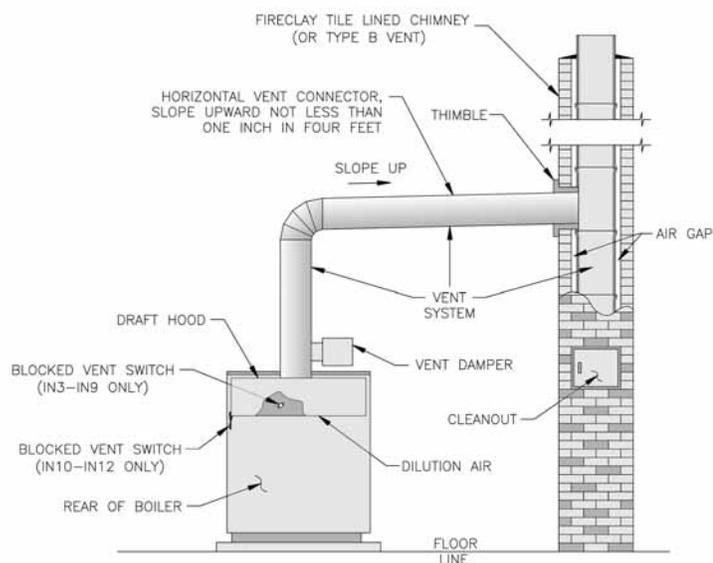

Figure 7: Typical Vent System Installation
C. Inspect Vent System (Monthly). See Figure 7. Follow instructions TO TURN OFF GAS TO APPLIANCE (see Figure 4, 5 or 6) and contact a qualified service agency if any of the following conditions are found: